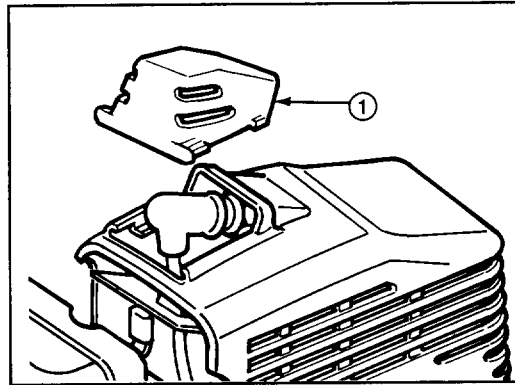

Figure 15
1. Stop engine. Remove spark plug cover by squeezing sides and sliding off engine cover (Fig. 15). Pull wire off spark plug.
1. Drain gasoline from fuel tank. Remove spark plug cover by squeezing sides and sliding off engine cover (Fig. 15). Pull wire off spark plug.